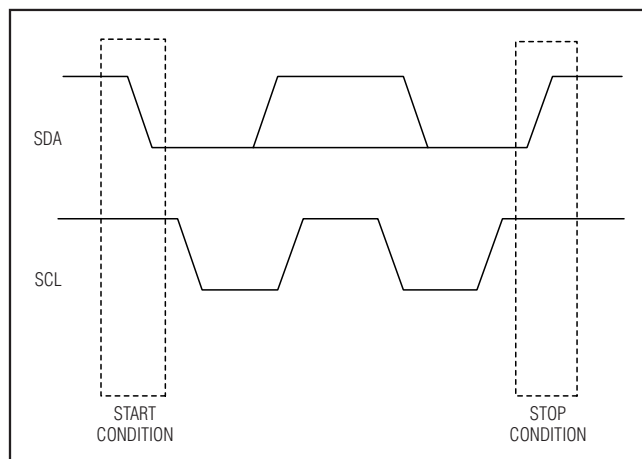

Figure 17. START and STOP Conditions
Both SCL and SDA remain high when the bus is not busy. The master signals the beginning of a transmission with a START (S) condition by transitioning SDA from high to low while SCL is high. When the master has finished communicating with the MAX8834Y/MAX8834Z, it issues a STOP (P) condition by transitioning SDA from low to high while SCL is high. The bus is then free for another transmission (Figure 17). Both START and STOP conditions are generated by the bus master.